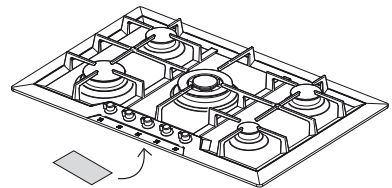

Fig. 1: position of the identification plate
**The identification plate**, with technical data, serial number and marking, **is positioned in view under the housing** [Fig. 1].